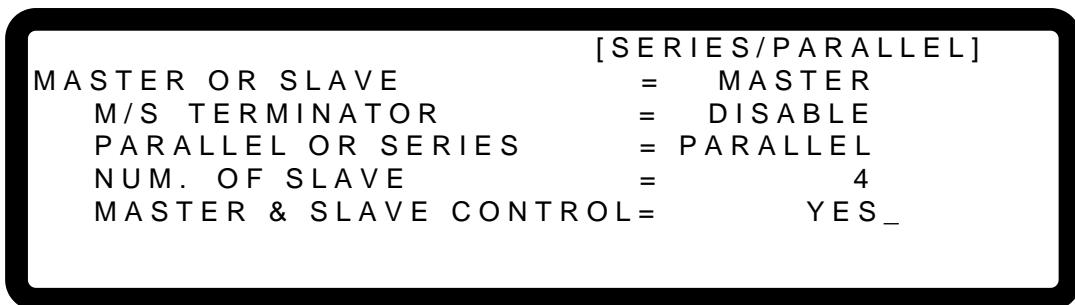

Figure 3-44
1. Use the “”, “” keys to move the cursor to the column to be set as shown in Figure 3-44.